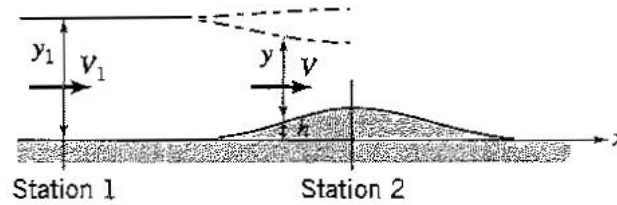

Figure P10.8
10.8 Consider the one-dimensional open channel flow shown in Figure P10.8.